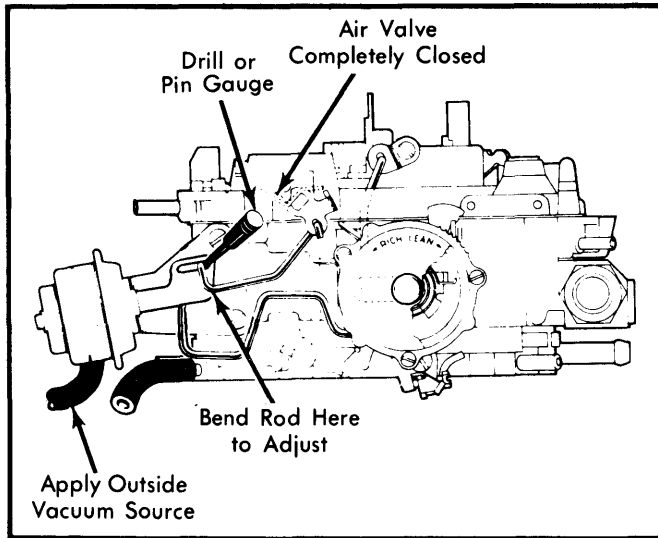

Fig. 7 Adjusting Air Valve Rod - Rear
1) Using an outside vacuum source, seat secondary (rear) choke vacuum break diaphragm. See Fig. 7.